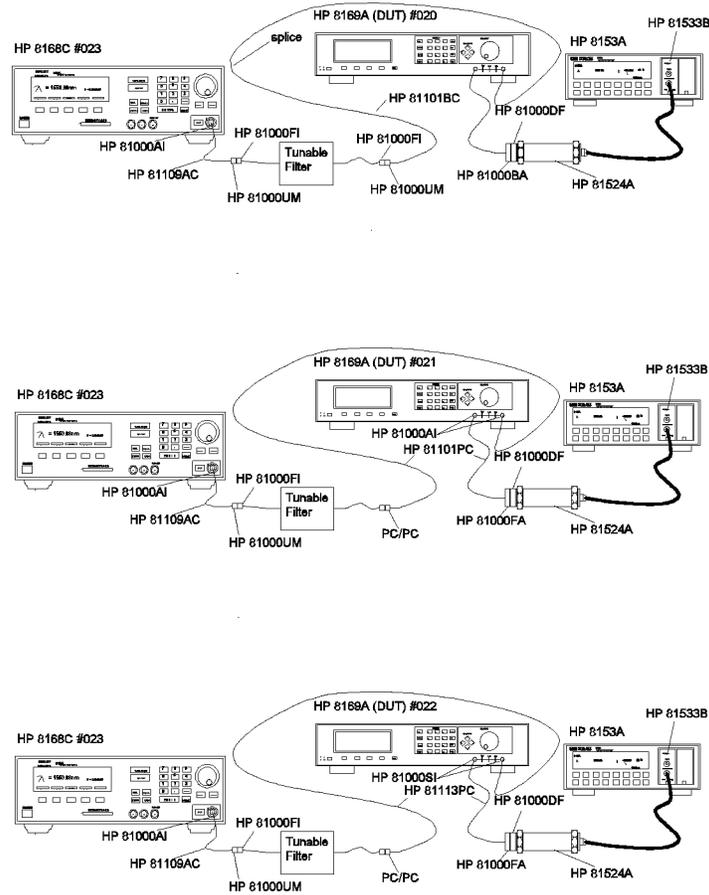

Figure D-3. Test Setup for Measuring the Extinction Ratio
2. Setup the equipment as shown in Figure D-3.